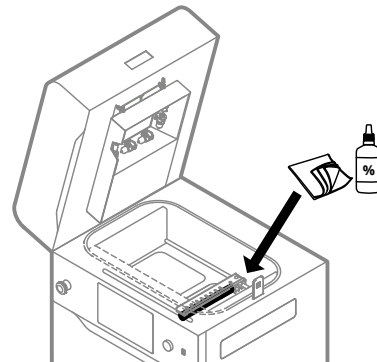

Fig. 13.97 Use cloth and ethyl alcohol to clean the Recoater roller, while it is above the Print Bed.
16. Once again, wipe the Recoater roller with dry cloth to remove the powder (fig. 13.97).
17. Next, wipe the Recoater roller using cloth soaked in ethyl alcohol (fig. 13.97). Press **DONE**.